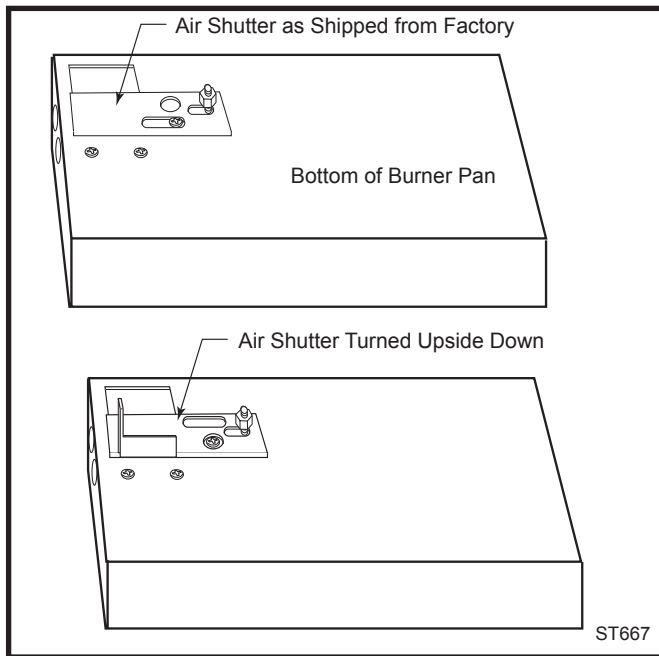

Fig. 13 Remove air shutter, turn upside down and replace.
3. Turn burner upside down and remove air shutter. Turn air shutter upside down and replace on burner. (Fig. 13)